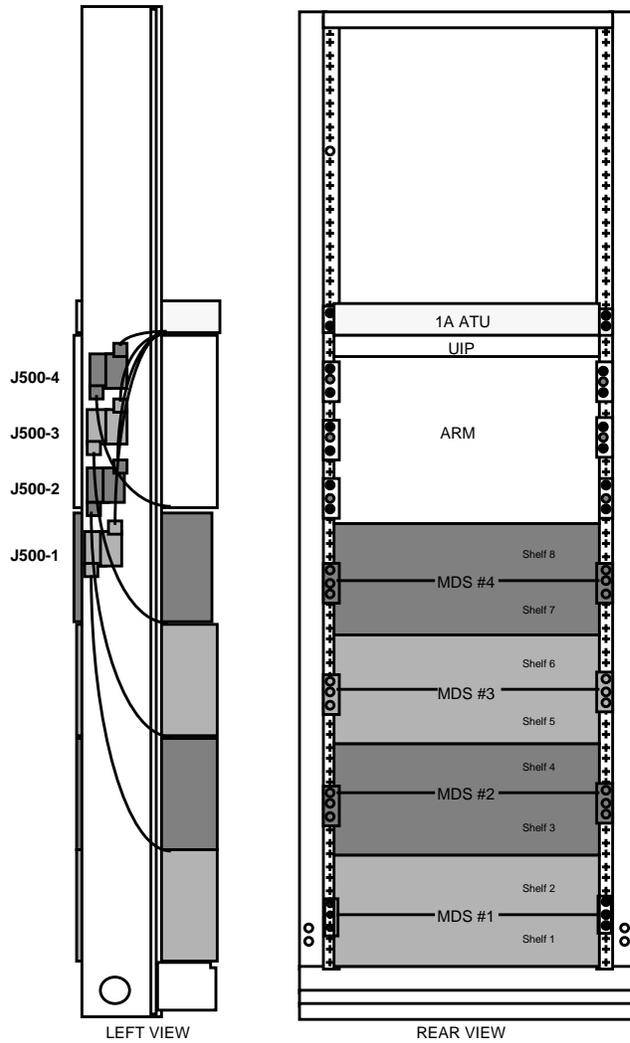

Figure 3-16. PCM J5000 Connections
Step 2: Position the cables in the left side duct in accordance with Figure 3-16.